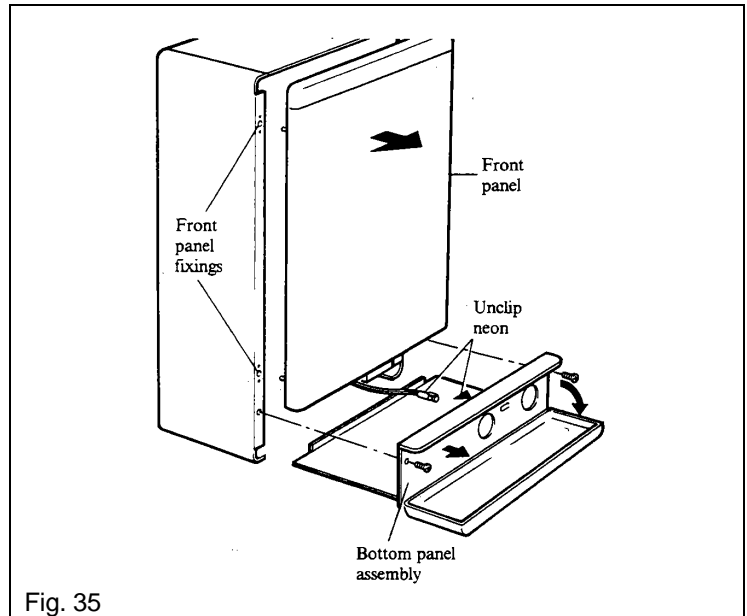

Fig. 35
9. Carefully slide the bottom panel assembly into position (the bottom panel goes above the returns on the case side panels), clip the neon, see Fig. 35, into its holder on the back of the control panel as the bottom panel is slid into position. With the control panel cover open, secure the control panel to the side panels with the two countersunk hd. screws previously removed.